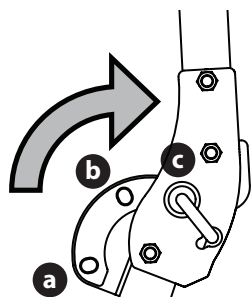

Fig. 5
- When both locking pins are secured in the ADJUSTMENT position, slowly lift and rotate the upper ROPS from the TRANSPORT (a) position, past the TRANSPORT WITH BAGGER (b) position and into the OPERATION (c) position (Fig. 5).